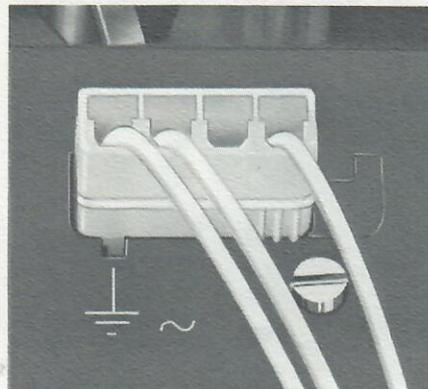

Fig. 3
B. No. 209 458; AMP-No. 42859/1 (fig. 3)